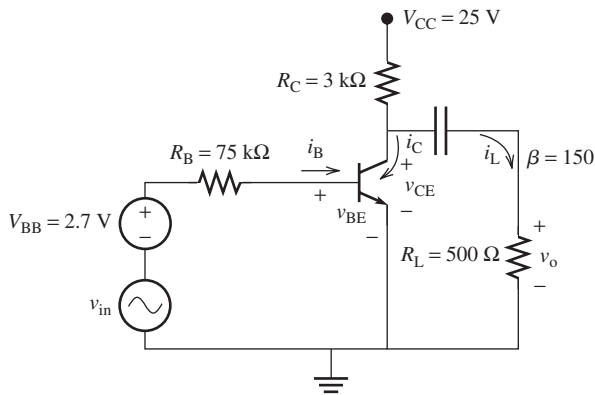

FIGURE P8.48 Circuit of Problem 8.48.
8.48 (H)* Find A_v , A_i , R_i , and R_o for the circuit shown in Figure P8.48.